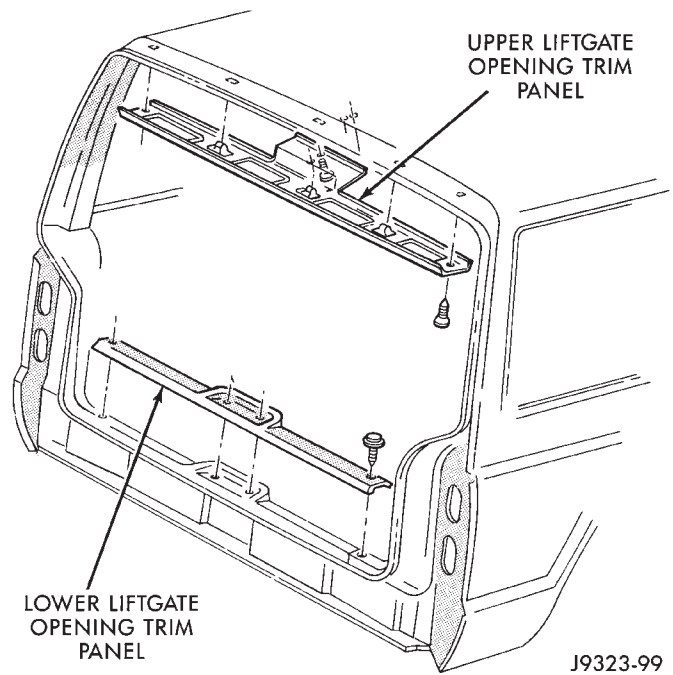

Fig. 25 Liftgate Upper Trim Molding
- (1) Remove liftgate (headliner) upper trim molding (Fig. 25). Disconnect wiring harness to cargo lamp.
(4) Install liftgate (headliner) upper trim molding (Fig. 25).